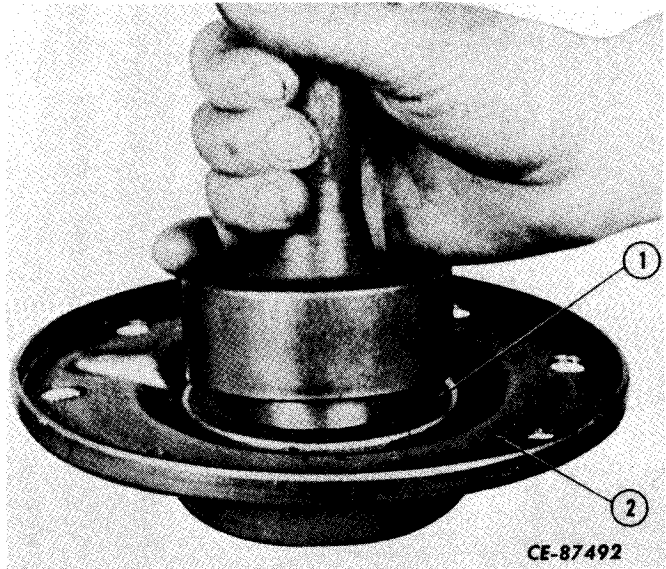

Figure 6-41
Lubricate pinion shaft oil seal (1, Fig. 6-41). Coat O.D. of seal body with a non-hardening sealing compound. Install seal in pinion bearing cover (adapter) (2) using a suitable driver. Be sure lip of seal is toward pinion cage. Seal body must bottom on shoulder of bearing cover.